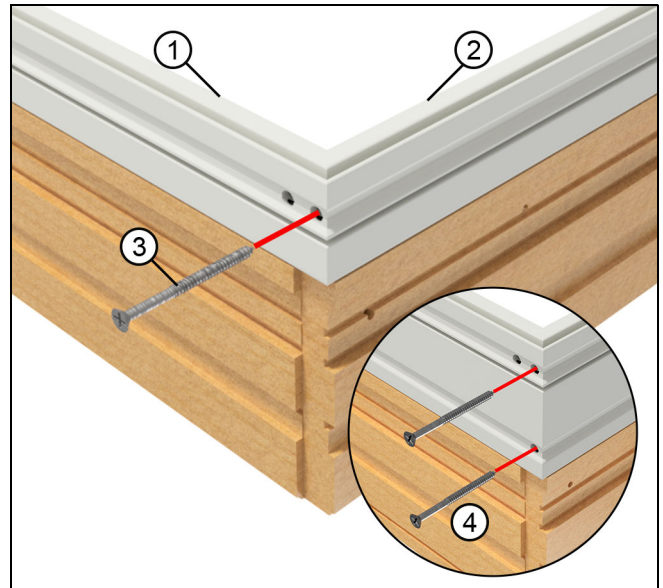

Figure 4
3. Align the joint on the corners, then use a #7 x 2" flat head screw (unpainted) through the hole closest to the end and into the screw boss of the jamb cladding. The inner-most holes on each side are used for injection. See Figure 4. 6-9/16" jambs will require two #7 x 2" flat head screws through the head jamb cladding.